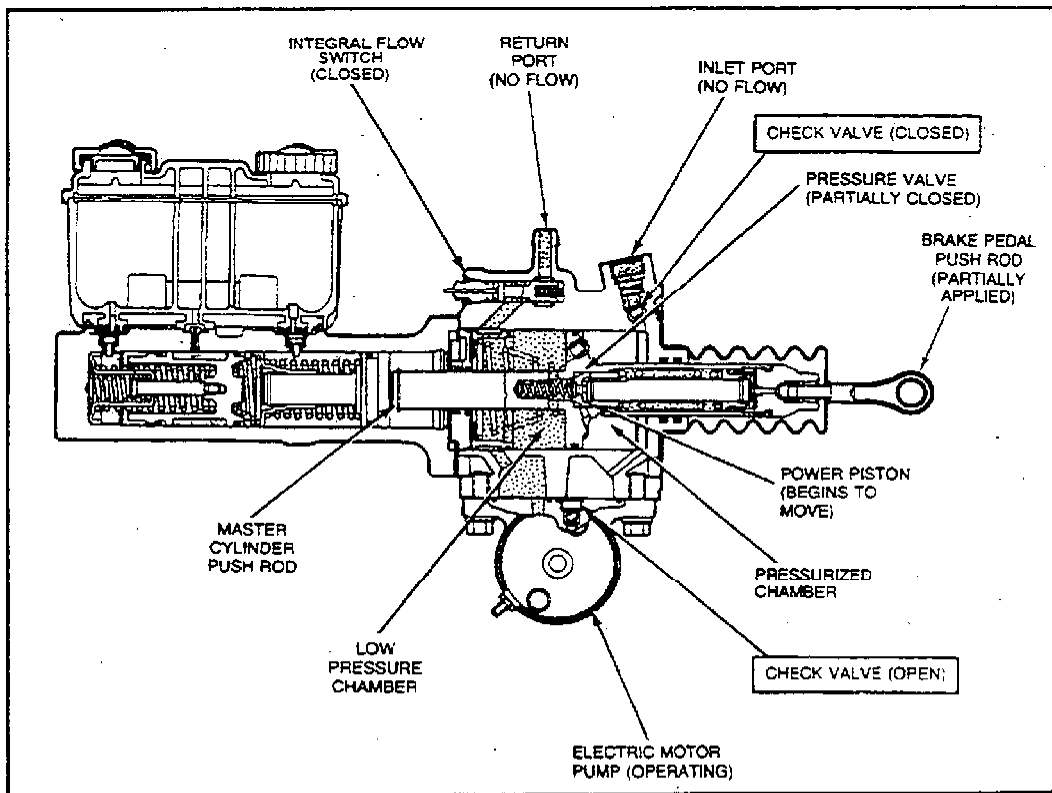

Fig. 7-8. Hydro-Max - Reserve Electric Motor Operation
(5) In the brake master cylinder, the primary and secondary actuator pistons are moved past their respective compensating valves, and both primary and secondary systems are pressurized, actuating the brakes at the wheels.
d. Reserve Power System. The Hydro-Max booster system provides virtually unlimited availability of reserve power, as long as the vehicle's battery or alternator is operating. This reserve power is supplied by the electric pump located at the bottom of the booster unit. This system automatically and immediately reacts upon brake application whenever the power steering fluid flow is interrupted. Figure 7-8 illustrates the reserve power system, which operates as follows: